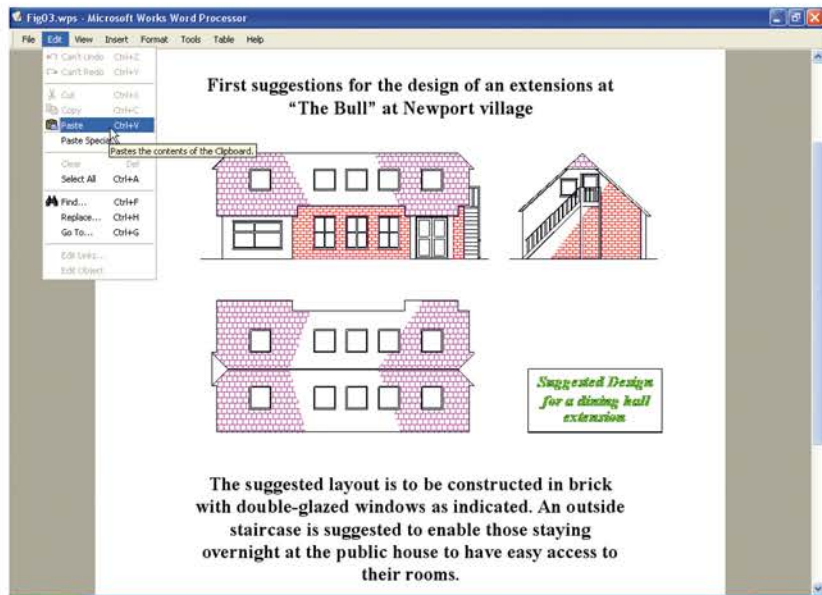

Fig. 14.2 Example – Copying and Pasting
FIRST EXAMPLE – COPYING AND PASTING (FIG. 14.2)
3. Open **Microsoft Word** and *click* on **Paste** in the **Edit** drop-down menu (Fig. 14.2). The drawing from the **Clipboard** appears in the **Microsoft Word** document. Add text as required.